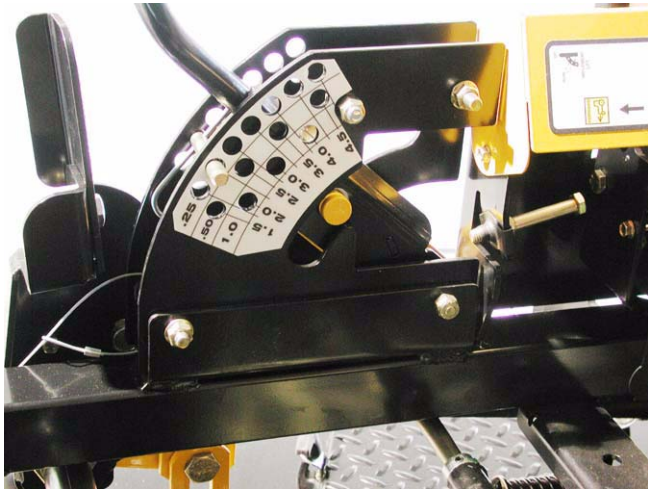

Figure 9.6
- 9.6. 1/4" increments on the height adjuster, with foot assist deck lift. See Figure 9.6.